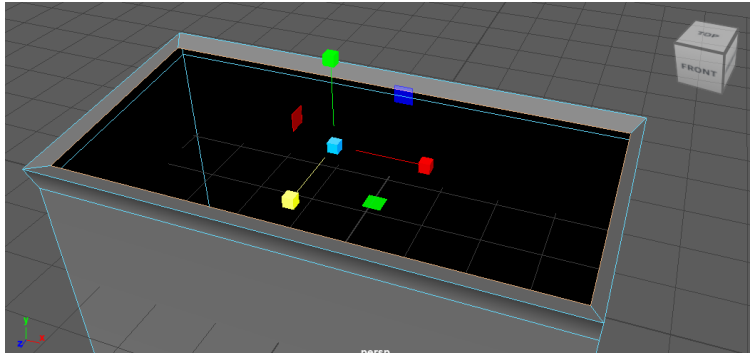

Fig. 1 (Image: What Can You Put in the Dumpster at Your Apartment?, Hignell Rentals Blog, Google)
- **Fig. 1:** How to Model a 3D House in Autodesk Maya / 3D House Modeling Tutorial, Innovledia, YouTube, 2022
- **Fig. 1:** What Can You Put in the Dumpster at Your Apartment?, Hignell Rentals Blog, Google. <https://blog.hignellrentals.com/what-can-you-put-in-the-dumpster-at-your-apartment>